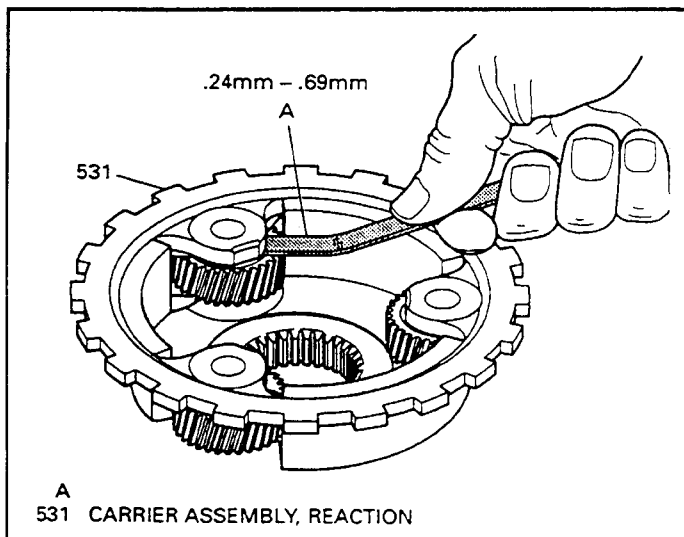

Figure 137
36. Measure the reaction carrier pinion gear end play with a feeler gage for proper specification, as shown in Figure 137.
37. End play should be .009"-.027" or .24mm to .69mm, as shown in Figure 137.